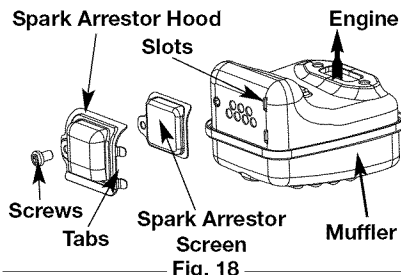

Fig. 18
- Locate the muffler, **but do not remove it**. Find the screw on the bottom of the muffler (Fig. 18). This screw holds the Spark Arrester Hood Assembly and the spark arrester screen to the bottom of the muffler. Remove this screw using either a Torx T20 or flat blade screwdriver.
- Place the spark arrester hood on top of the spark arrester plate with the “raised” side up and the opening facing AWAY from the engine (Fig. 18). Verify that the exhaust will be directed AWAY from the engine.